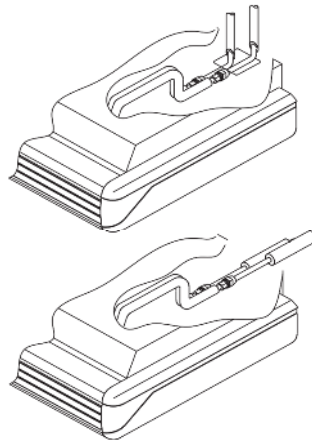

Figure 23
(2) Water piping can enter the unit from the bottom or back of the unit. Figure 23 (Horizontal Discharge Configuration) and 24 (Vertical Discharge Configuration)
(3) The water coil's supply and return lines are copper stub outs. They can be connected to the system's loop by brazing or mechanical connectors. Check prevailing codes for the correct type of connection to be used.
(4) Ensure the supply and return lines of the building's water loop are installed on the correct stub outs inside the unit. The stub outs are labeled supply and return.